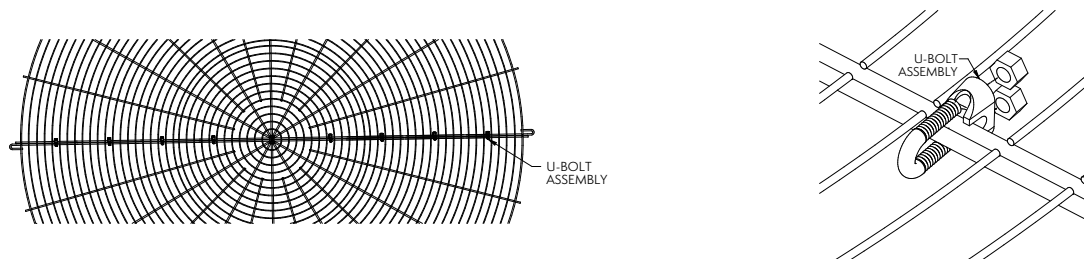

Figure 15 –U-Bolt Assembly Spacing & Arrangement
3. Join the two screen halves with "U" bolts, as shown in **Figure 15**.